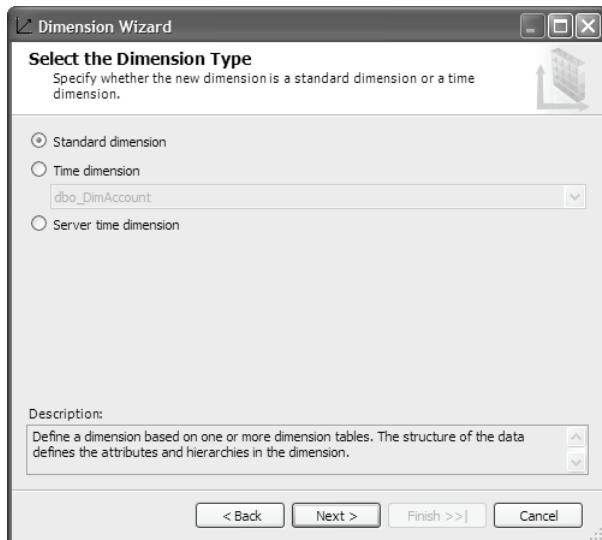

Figure 4.33 If your data source doesn't have a designated time table, use the Dimension Wizard to generate server Time dimension.
2. Right-click on the Dimensions folder and select *New Dimension* to launch the Dimension Wizard. Accept the default options in the Select Build Method step. In the Select Data Source View step, verify that SOS OLTP is the only data source view listed. Click Next to advance to the *Select the Dimension Type* step (Figure 4.33).